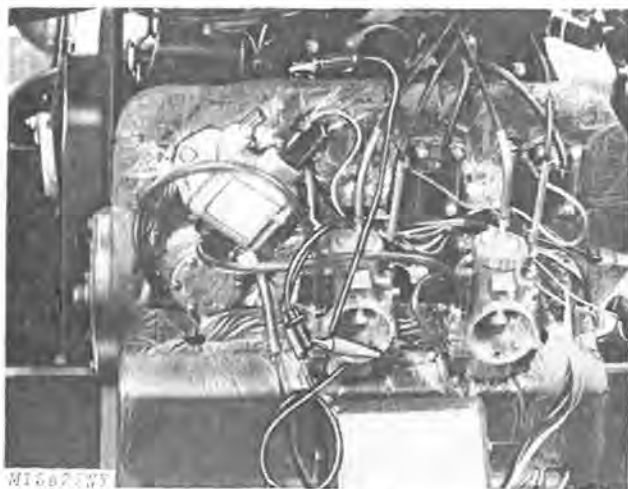

Fig. 4-Testing Stator Assembly
2. Connect one ohmmeter lead to the engine block. Connect the other ohmmeter lead to the black wire terminal of the stator plug, Fig. 4. The ohmmeter should indicate from 30 to 100 ohms.